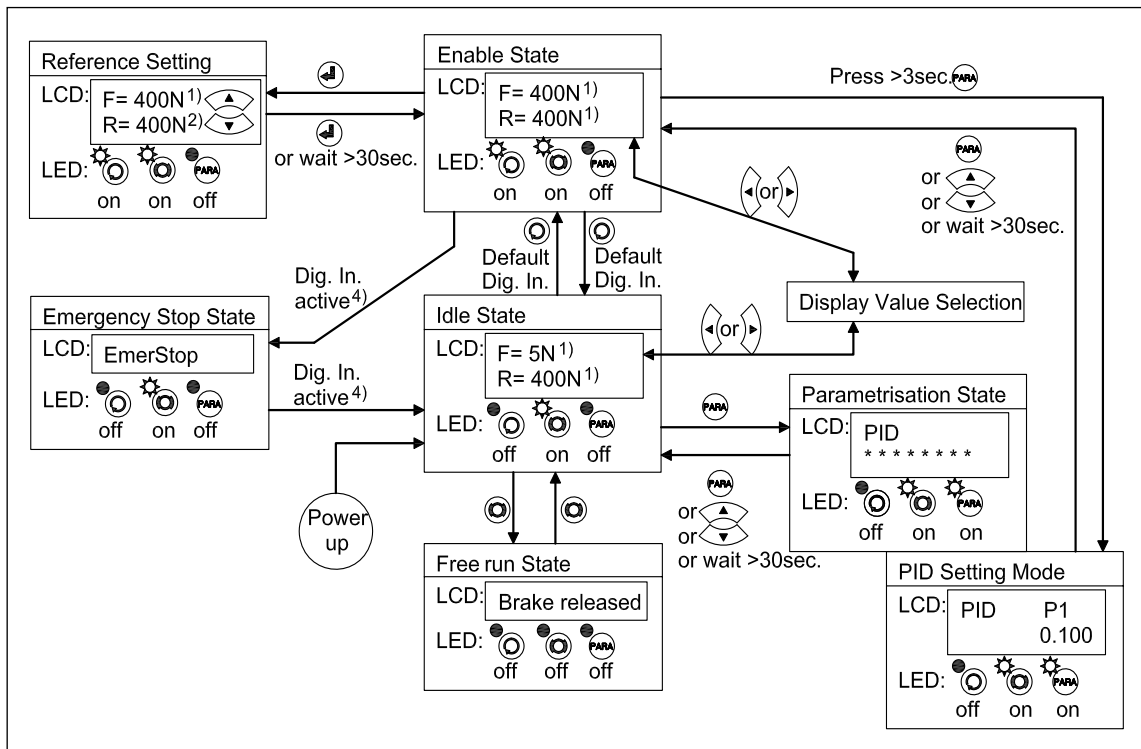
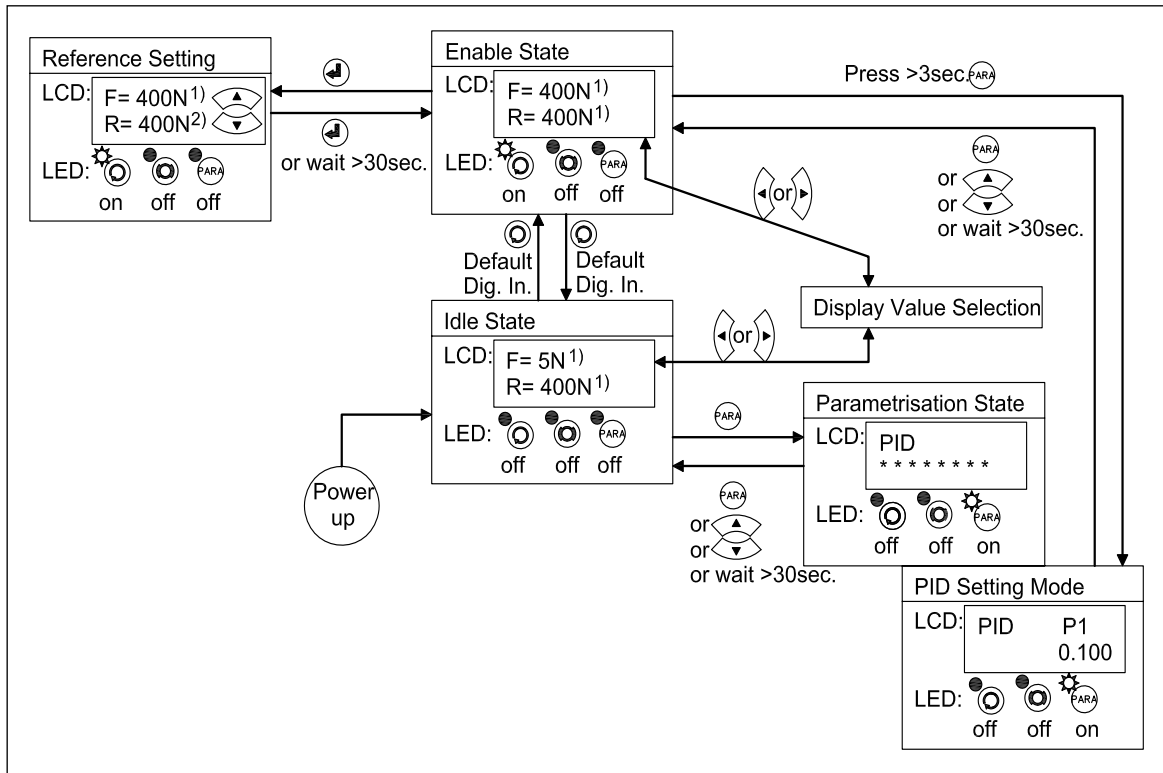

Fig. 17: Top-level view of operation control for brake applications
Fig. 18: Top-level view of operation control for drive applications
The user can toggle between the different states by pressing a key on the front panel. Fig. 17 and Fig. 18 provide an overview about the different Operation States and how to move from one state to the other.
2. Go to “Enable Sate” (see Fig. 17 or 18)
The Parametrisation State can only be accessed from the “Idle State”. From the “Enable State” only the Parameter Group “PID” can be reached (**Fig. 17** and **18**). The tension controller CMGZ309 displays only the parameters that are relevant for a chosen control mode. If you have configured your system e.g. for a Drive Application, no Brake relevant parameters such as *Brake Time*, *Holding Torque* *Diameters* etc. will be displayed. In the following State Diagrams every parameter features a small table which indicates its application field.